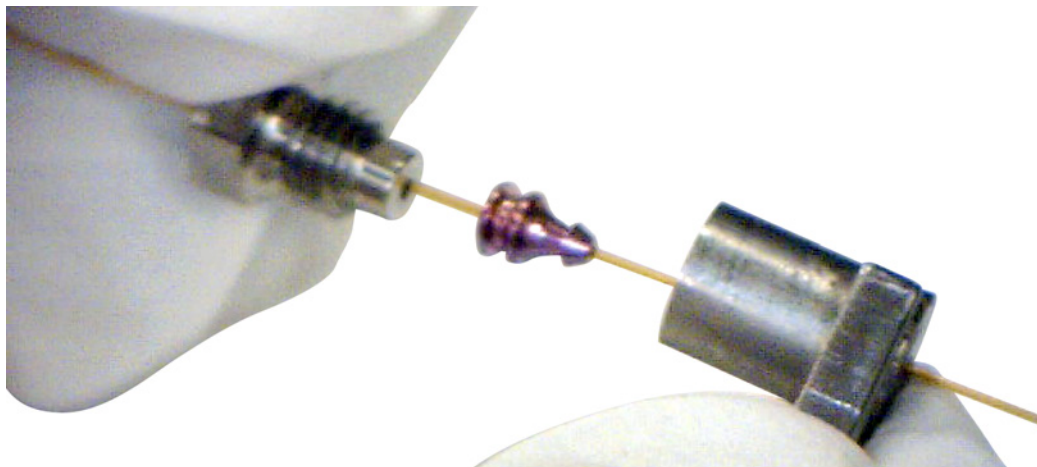

Figure 11. Thread the column through the internal nut, ferrule, and swaging wrench
- 1 Pass the column end through the internal nut, the ferrule, and the swaging wrench (Figure 11).